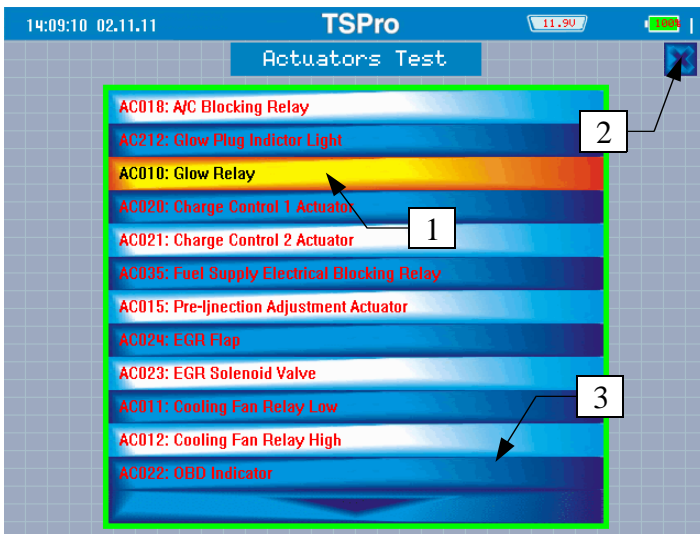

Figure 1.3
The device is controlled via a system of menus in which individual items are selected from lists using the cursor keys. By pressing the Up/Down keys, the movement in the current list is performed. The currently selected item is always highlighted, as can be seen in Figure 1.3. The selection is confirmed by pressing OK key. This way the features such as entering new menu, starting a diagnostic test etc. are performed. By pressing the Cancel key, one returns to the previous menu or cancels current task.
If the button is selected (such as (1) in Figure 1.3), the selection can be also confirmed by pressing the OK key on the TSPPro. To switch between the buttons you can use the Left and Right arrow keys.